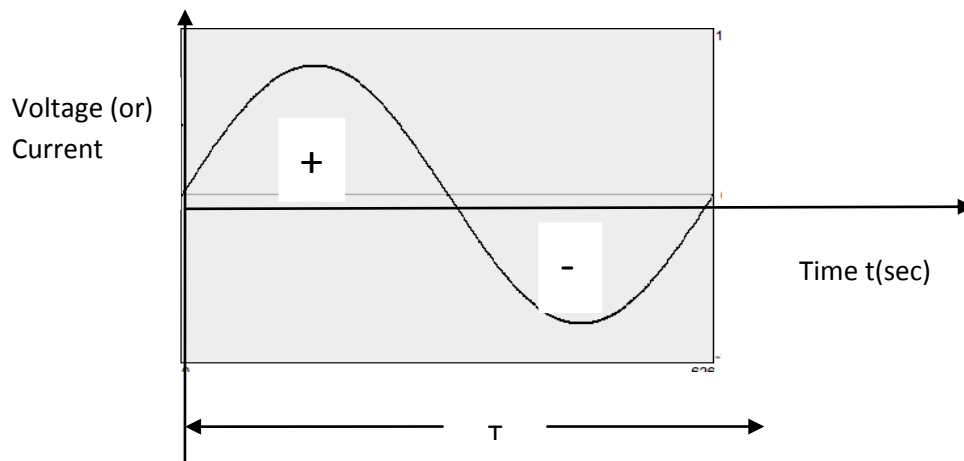

Fig.2.1
- ❖ The sinusoidal waveform changes its magnitude and direction with time. If we start at time $t = 0$, the wave goes to a maximum value and returns to zero, and then decreases to a negative maximum value before returning to zero as shown in Fig.2.1.